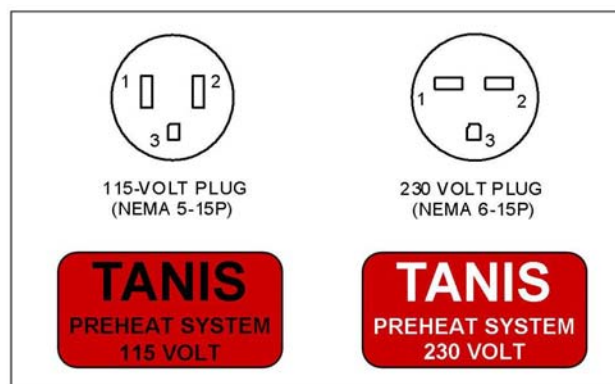

Figure 1 - Shore power plug types and placards. Standard Tanis placard shown, appropriate alternate stating *Tanis System* and required voltage acceptable.
- 3) [☐] Verify Tanis system ground by checking for continuity between shore power plug ground, pin 3 (Figure 1), engine, and airframe.
To calculate the specific wattage of an individual element or installed system, measure total resistance between the contacts (Figure 1, 1 and 2), and use the following formula.